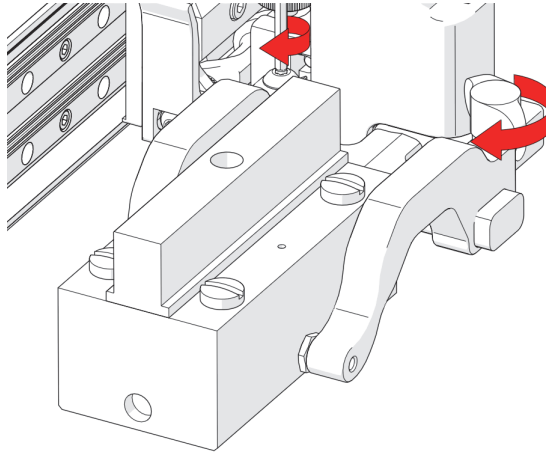

Figure 2-107 Pivot buttons
6. Tighten both the probe holder adjustment knob and the arm clamp screw (see Figure 2-107 on page 117) while ensuring the wedge remains centered with the yoke.